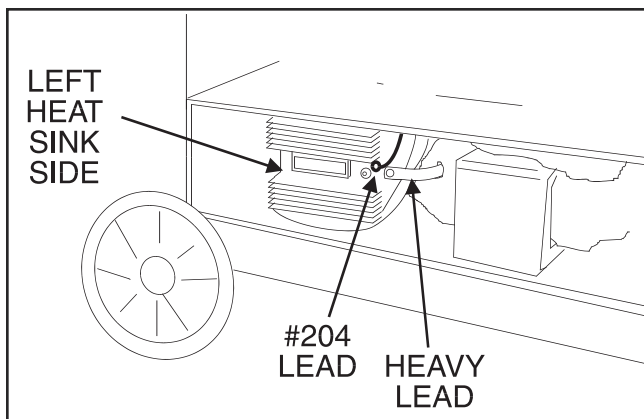

FIGURE F.16 - Heat Sink lead disconnection.
2. Disconnect lead #204 and heavy lead from the middle heat sink with a 1/2" socket wrench and 1/2" open end wrench. See Figure F. 16.